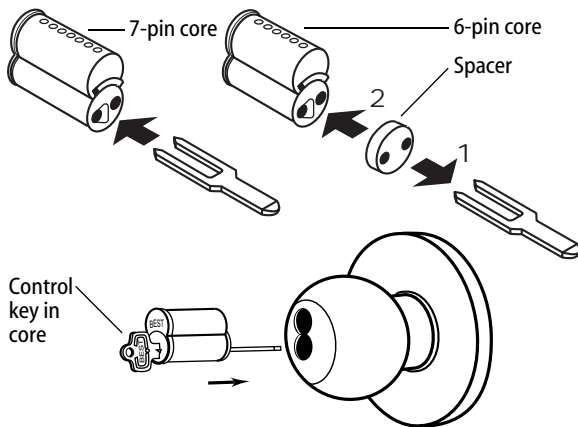

Figure 11 Installing the figure-8 core
For 6-pin core users only: Slide the spacer — supplied with your 6-pin cores — over the 7-pin throw member (see Figure 11, top right).
- 1 Insert the throw member (or throw member and spacer) into the back of the core (see Figure 11, top).
- 2 Put the control key into the core and turn the key 15 degrees clockwise.
- 3 Put the core and throw member into the knob with the control key (see Figure 11, bottom).
- 4 Turn the key 15 degrees counterclockwise and remove the key.